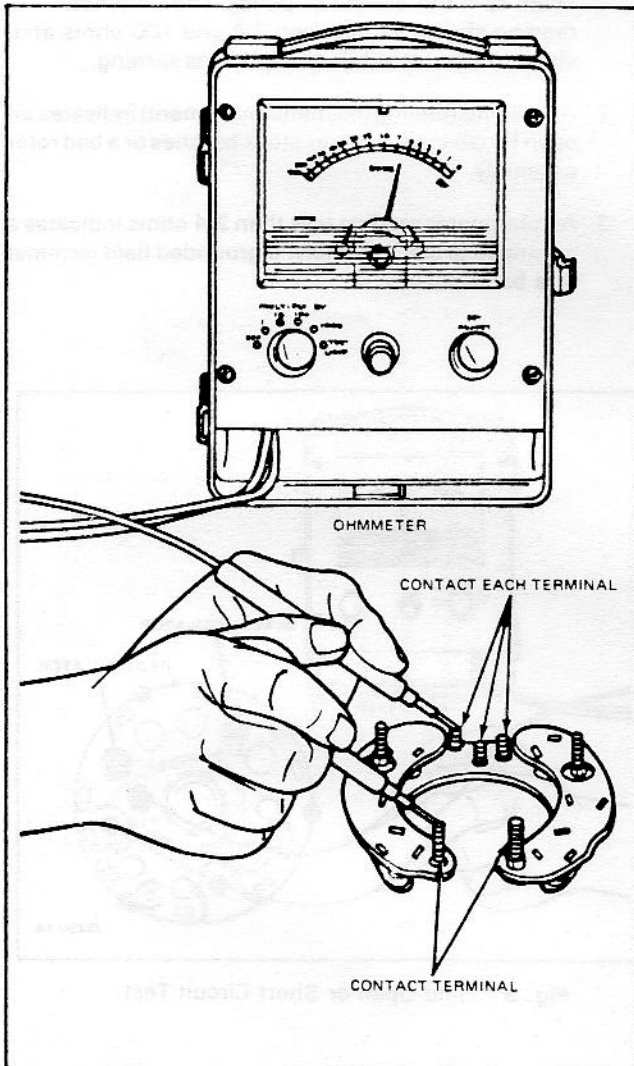

Fig. 10 - Diode Test - Rear Terminal Alternator
1. To test one set of diodes, contact one probe to the terminal bolt and contact each of the three stator lead terminals with the other probe (Fig. 10). Reverse the probes and repeat the test. All diodes should show a low reading of about 6 ohms in one direction and an infinite reading (no needle movement) with the probes reversed. The low reading may vary with the type of tester used. This reading may be checked against a good rectifier if it is available.